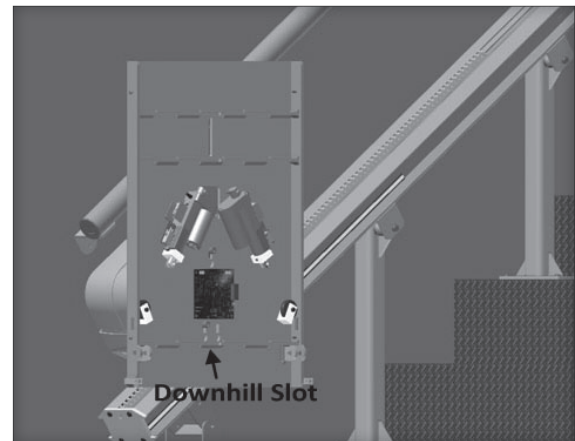

Figure 7-2
**10. Install the platform mount onto the chassis** by aligning the two large holes on the end of the slots with the two large Allen-headed cap bolts protruding from the side of the chassis. For the bottom slot, use the one on the downhill side of the mount. [Figure 7-2] Ensure that the bolt heads are fully seated in the top of the slots, level the mount and tighten securely. Tighten the two more cap bolts on the back side of the chassis as well.